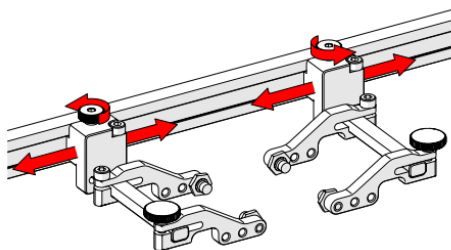

Fig. 1 - Frame bar positioning
1. Loosening the probe holder adjustment knobs (Fig. 1) allow the probe holders to be positioned along the frame bar.